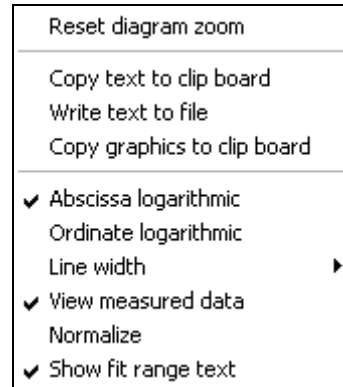
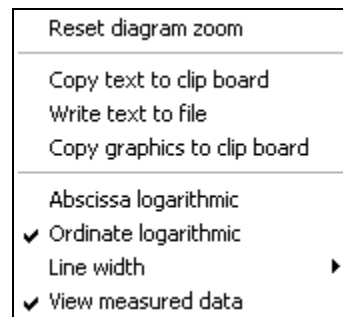

Fig. 356 Context menu of the Fit Correlation diagram
Fig. 357 Context menu of the Fit PCH diagram
- Click on the diagram with the right mouse button to open the context menu for the **Fit Correlation** (Fig. 356) respectively **Fit PCH** diagrams (Fig. 357).